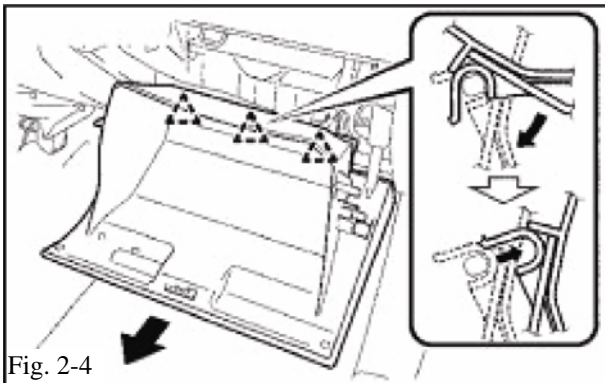

Fig. 2-4
- (3) Pull the glove box door assembly toward the rear of the vehicle to release the three (3) hinges and remove the glove box door assembly. (Fig. 2-4)